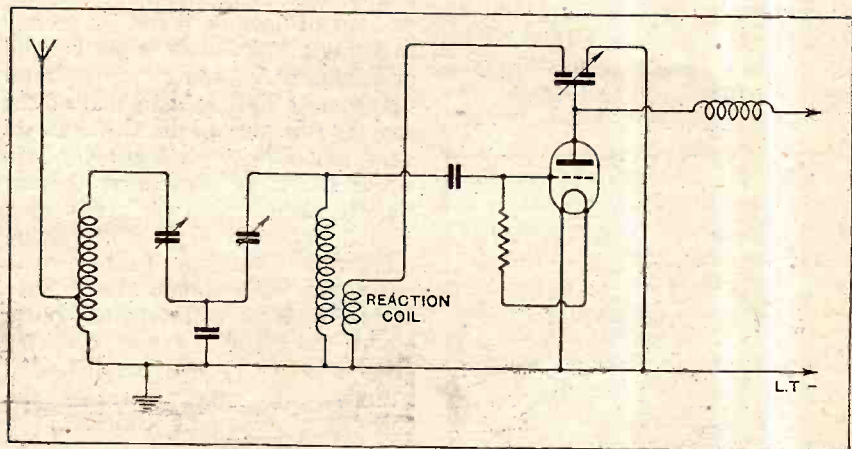

Fig. 4.—Detector valve with differential reaction control and a capacity-coupled input filter.
H.F. amplification. Sets of this kind can be modified by adding a reaction winding, as shown in Fig. 4, but it would be over-optimistic to suggest that the arrangement is really easy to operate or even that it is perfectly satisfactory when manipulation of its controls has been mastered. This is because all the circuit controls— aerial, secondary, and reaction—are interdependent, but where conditions are such that the sensitivity of the detector, without regeneration, is sufficient for normal reception, it has its uses.